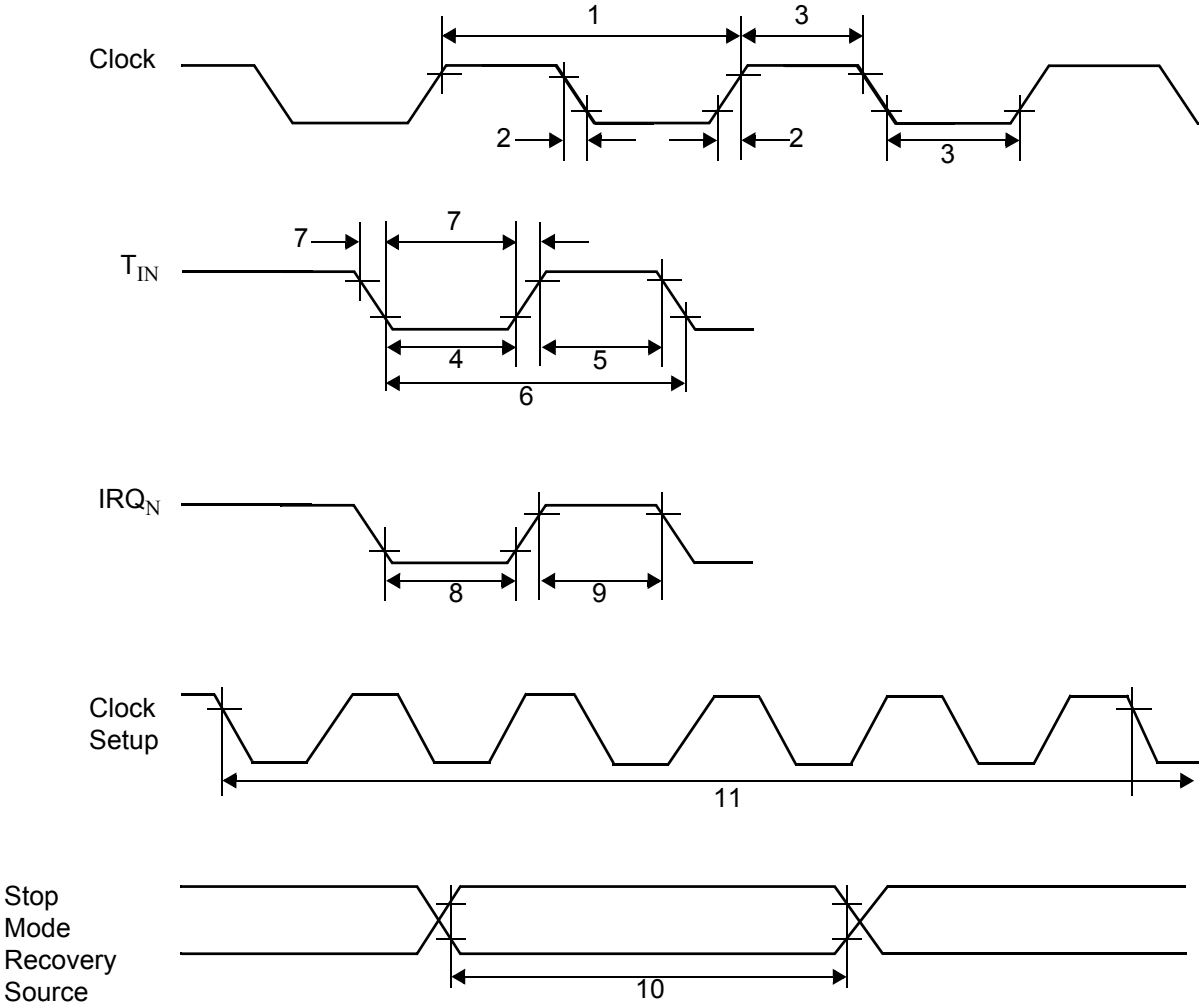

Figure 57. AC Timing Diagram
Figure 57 and Table 23 describe the Alternating Current (AC) characteristics.